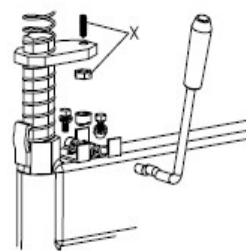

Fig.12
Notice: If Hexagonal Vertical Arm not be locked or not meet the requirement that 2-3mm from the bottom of Mounting/demounting head to rim, please adjust Hexagonal Locking Plate, refer to Fig.12 and adjust the (X).